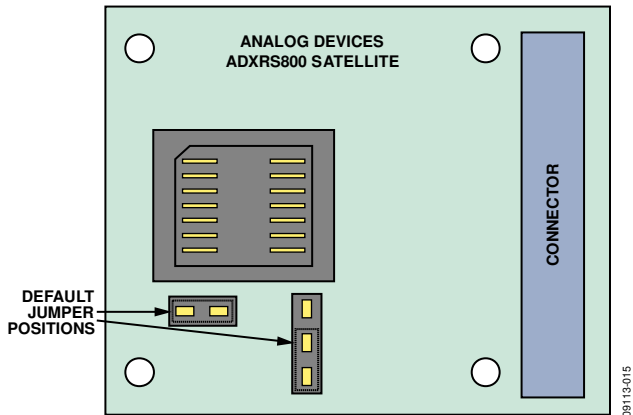

Figure 15. Default Jumper Positions
4. Ensure that the jumpers on the ADXRS800 satellite are in their default configuration, as shown in Figure 15. This sets up the board to use the on-board boost converter to generate the required high voltage supply for the device. For more information on using alternate high voltage supplies, see the ADXRS800 data sheet and the Alternate External High Voltage Supply section of this guide.